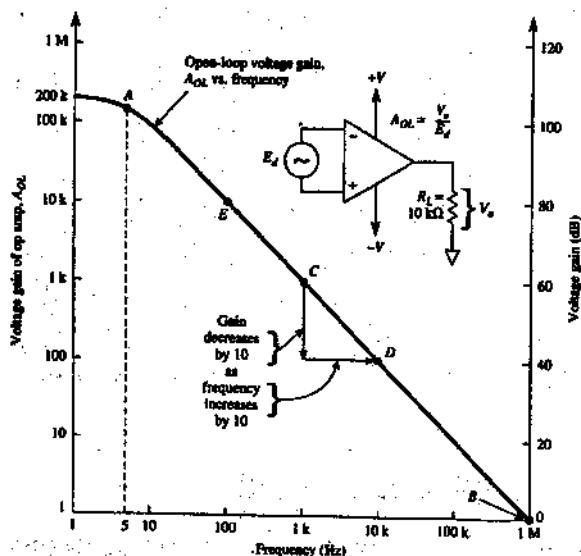

FIGURE 10-1 Open-loop voltage gain of a 741 op amp versus frequency.
A typical curve is shown in Fig. 10-1 for internally compensated op amps such as the 741. At low frequencies (below 0.1
Point A in Fig. 10-1 locates the *break frequency* at which the open-loop voltage gain of the op amp is 0.707 times its value at very low frequencies. Therefore, the voltage gain at point A (where the frequency of  $E_d$  is 5 Hz) is about 140,000, or  $0.707 \times 200,000$ .
Points C and D show how gain drops by a factor of 10 as frequency rises by a factor of 10. Changing frequency or gain by a factor of 10 is expressed more efficiently by the term *per decade* ("decade" signifies 10). The right-hand vertical axis of Fig. 10-1 is a plot of voltage gain in decibels (dB). The voltage gain decreases by 20 dB for an increase in frequency of 1
Three ways to obtain  $B$  from a manufacturer's data sheet are presented in this section. First, if you have the manufacturer's plot of  $A_{OL}$  versus frequency, look for that frequency where  $A_{OL} = 1$  (see point B in Fig. 10-1,  $B = 1\text{MHz}$ ). Second, some data sheets may not give a specification called unity-gain bandwidth or a curve like Fig. 10-1. Instead, they give a specification called *transient response rise time (unity gain)*. For a 741 op amp it is typically  $0.25\text{ }\mu\text{s}$  and  $0.8\text{ }\mu\text{s}$  at maximum. The bandwidth  $B$  is calculated from the rise-time specification by
**Solution** By inspection of Fig. 10-1, if the frequency goes down by 10, the gain goes up by 10. Therefore, since the frequency goes down by a decade (from 1 MHz to 100 kHz), the gain must go up by a decade from 1 at 1 MHz to 10 at 100 kHz.
The data shown in Fig. 10-1 are useful for learning but probably do not apply to your op amp. For example, while 200,000 is a specified typical open-loop gain for the 741, the manufacturer guarantees only a minimum gain of 20,000 for general-purpose op amps. Still, 20,000 may be enough to do the job. Section 10-2 deals with this question.
**Small-signal bandwidth** is the difference between  $f_H$  and  $f_L$ . Often  $f_L$  is very small with respect to  $f_H$  or  $f_L$  is 0 for a dc amplifier. Therefore, the small-signal bandwidth approximately equals the high-frequency limit  $f_H$ . From point A of Fig. 10-1, we see that the small-signal bandwidth of an op amp is 5 Hz.